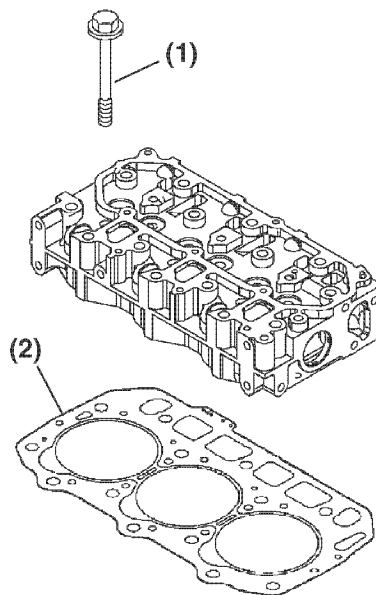

Figure 6-29
3. Lightly oil the threads of the cylinder head bolts (Figure 6-29, (1)). Tighten the bolts to the specified torque shown in the chart below. Tighten in the sequence shown in Figure 6-30. See *Torque for Bolts and Nuts* on page 6-14.
1. Carefully clean both the combustion surface of the cylinder head and the top surface of the cylinder block. Install a new cylinder head gasket (Figure 6-29, (2)) on the cylinder block.